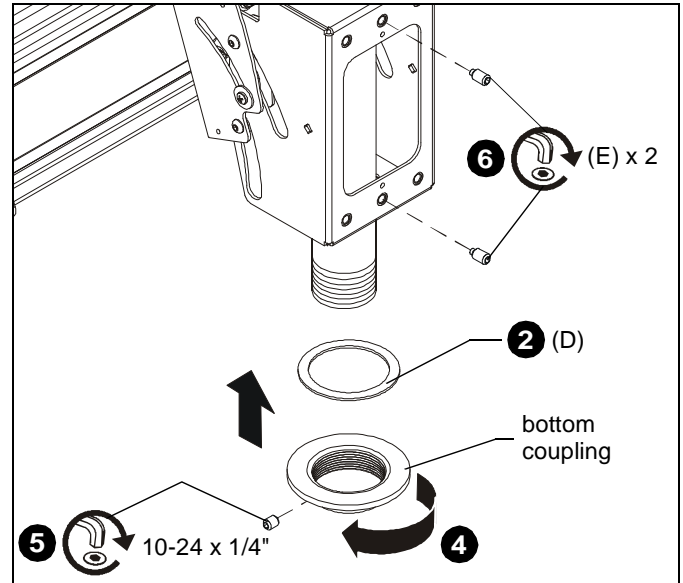

Figure 5
3. Insert one rotation ring (D) below mount assembly on leg of the triple ceiling accessory. (See Figure 5)
4. Thread bottom coupling onto leg of triple ceiling accessory until tight, with a minimum of four threads engaged. (See Figure 5)
5. Install and tighten one 10-24 x 1/4" set screw into bottom coupling. (See Figure 5)
6. Install and tighten two 5/16" nylon tipped set screws (E) [OR two 5/16" set screws included with mount assembly] through back of mount assembly and against column. (See Figure 5)